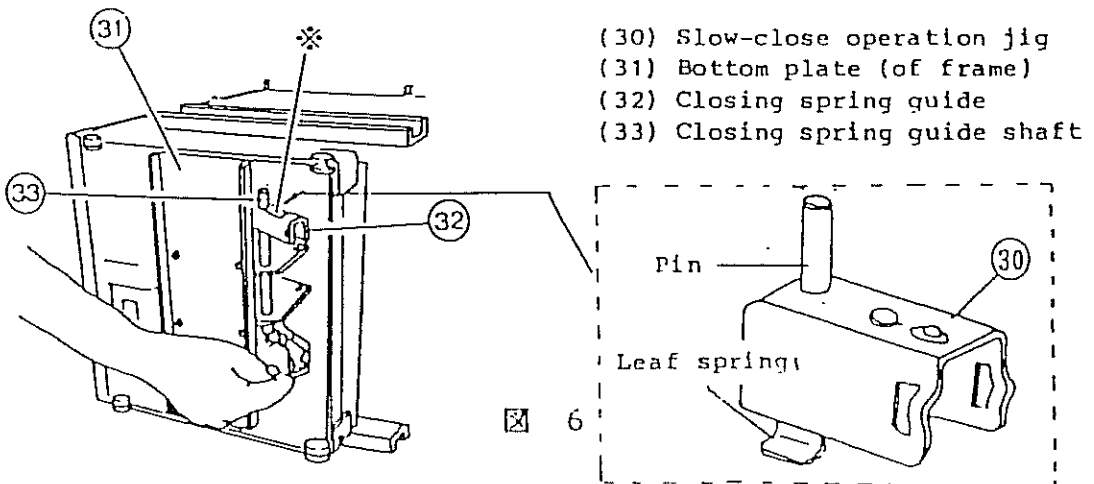

Fig. 6
- 3) Pump the charging handle (Fig. 4b (4)) to fully charge the closing springs. When the springs are fully charged, a wider gap (shown \*-marked in Fig. 6) develops between each closing spring guide (Fig. 6 (32)) and the closing spring guide shaft (Fig. 6 (33)). Insert the jigs leaf springs into each gap (square hole), with their pins extending to the inner side of the breaker. Make sure that both the closing spring guides are now jig inserted.
- 3) Compress the jig's leaf springs to remove the jigs from the respective closing spring guides (Fig. 6 (32)).
- o The jigs cannot be removed after the PUSH TO CLOSE button is pressed, in which case repeat the procedure from 6) in 3-1.The jigs (Fig. 6 (30)) are stored external to the breaker.
- 2) Check that the jigs for slow-closing operation (Fig. 6 (30)) are not fitted in the closing spring guides (Fig. 6 (32)).